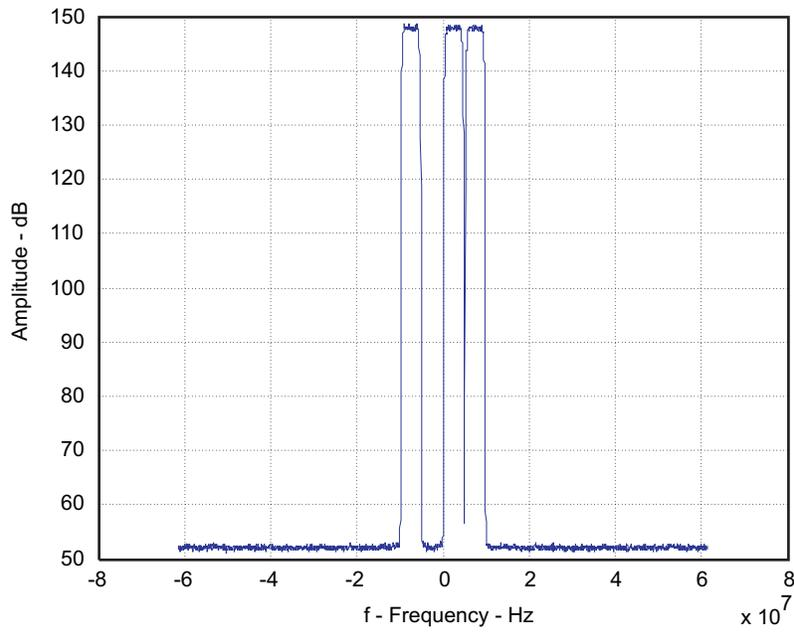

Figure 25. FFT of Three-Carrier WCDMA TM1 Pattern
4. Click the **Create** button. The CCDF and FFT windows display the signal characteristics shown in Figure 25 and Figure 26.